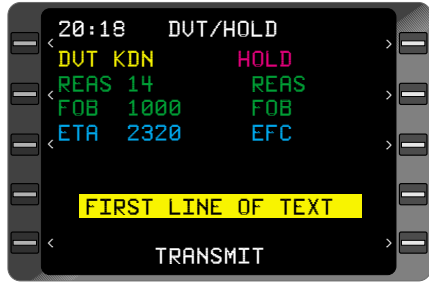

Figure 8-31
- ENTER** Key - DEPRESS. The cursor will move to first free text line. See Figure 8-31.